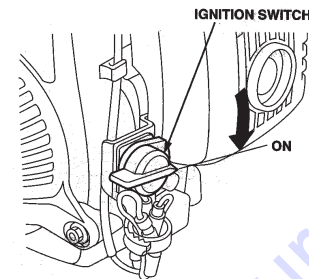

Figure 12. Ignition ON/OFF Switch (ON Position)
4. Place the **Ignition ON/OFF switch** (Figure 12) in the "ON" position.